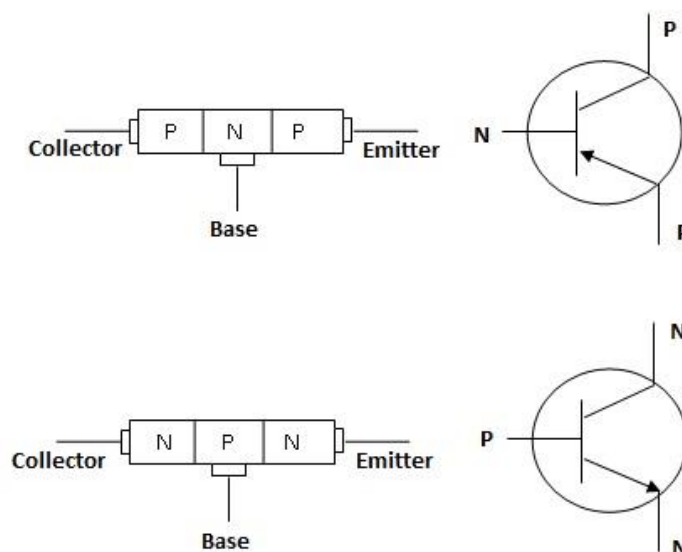

Figure 5: Transistor symbols
A junction transistor is simply a sandwich of one type of semiconductor material between two layers of the other type. Accordingly, there are two types of transistors (1) N-P-N transistor and (2) P-N-P transistor. When a layer of P type material is sandwich between two layers of N type material, the transistor is known as N-P-N transistor. Similarly, when a layer of N type material is sandwich between two P type materials, the transistor is known as P-N-P transistor. This is shown in figure 5 as given below.